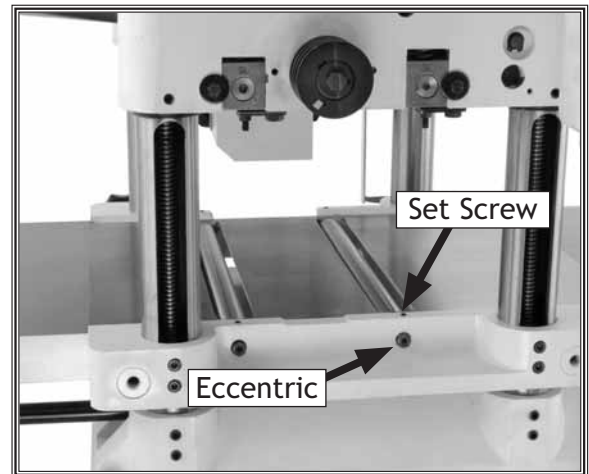

Figure 37. Table roller adjustment.
2. Loosen four table roller set screws shown in **Figure 37**, and use a wrench to turn the eccentrics and lower the rollers below the table surface.
14. Tighten the eccentric set screws shown in **Figure 37**, recheck the roller height, and readjust if required.